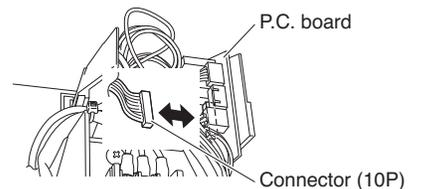

**Fig. 1**
- (1) Remove the air intake grille.
- (2) Remove the terminal cover. Pull out the thermistor, then remove the grille.
- For details on steps (1) and (2), refer to the Installation Instructions included in the outdoor unit package.
- (3) Disengage the top cover from the tabs on the sides of the component box, then pull the cover toward you to remove it. (Fig. 1)
- (4) Remove the 4 component box installation screws. (Fig. 1)